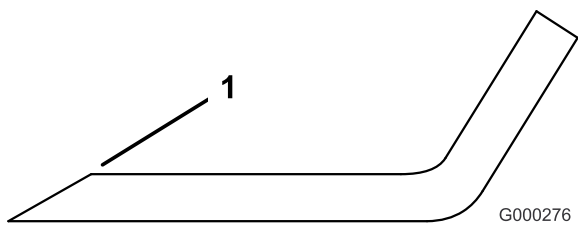

Figure 85
- Use a file to sharpen the cutting edge at both ends of the blade (Figure 85). Maintain the original angle. The blade retains its balance if the same amount of material is removed from both cutting edges.